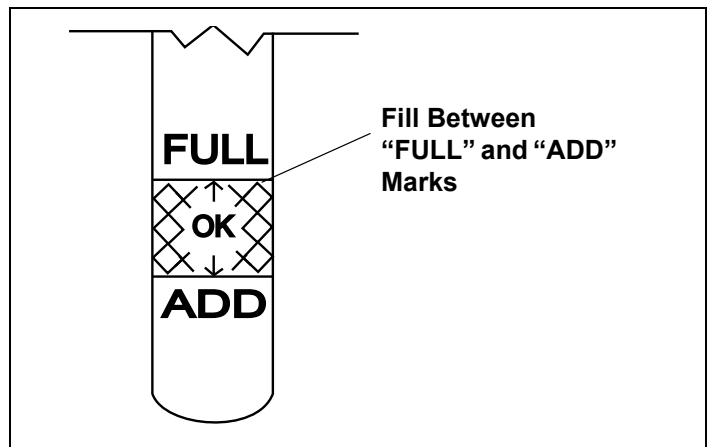

Figure 36. Engine Oil Level
11. Fill with recommended oil. See Figure 36. See "III. Oil and Fuel Specifications" instructions on page 4. See Table 1 on page 4. Afterward, continue reading instructions below.